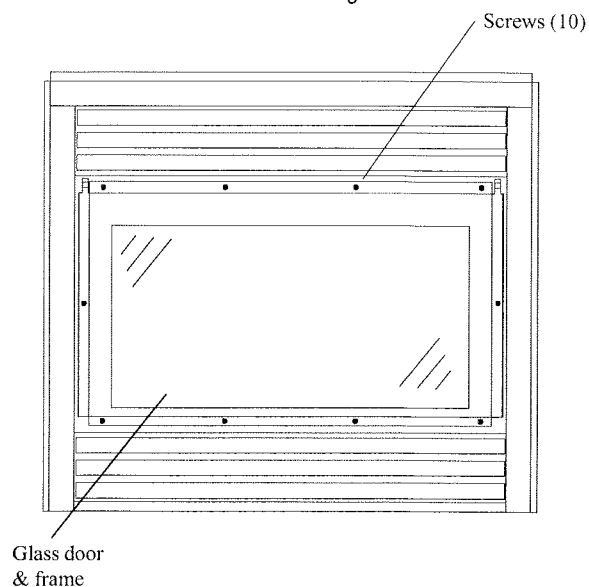

Figure 24b. Removing or installing the glass door.
To install/remove the glass door, simply attach/remove the ten (10) machine screws that hold door in place (See figure 24b). Ensure that a good seal is maintained when installing the door.